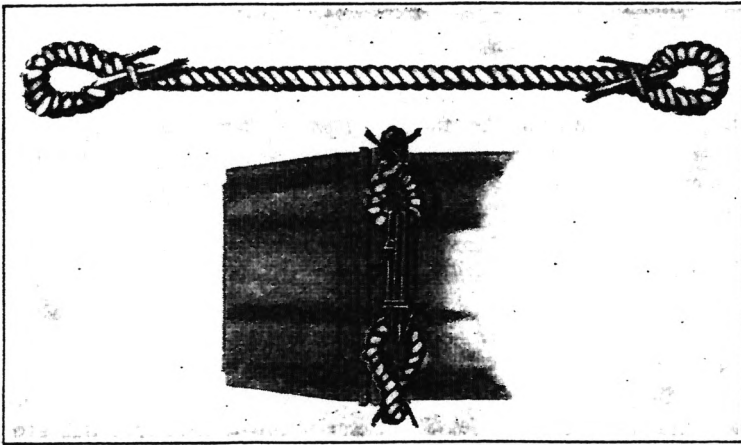

FIG. 18.—Rope grommet
**23. Projectiles.**—*a. High-explosive shell.*—(1) The high-explosive shell, Mk. III, are shipped without being crated or boxed. An eyebolt lifting plug or adapter plug is fitted in the fuze seat in the adapter of these shell to facilitate handling and to protect the fuze seat. The rotating band is protected by a rope grommet, as shown in Figure 18. These shell must be firmly secured against movement for transportation.